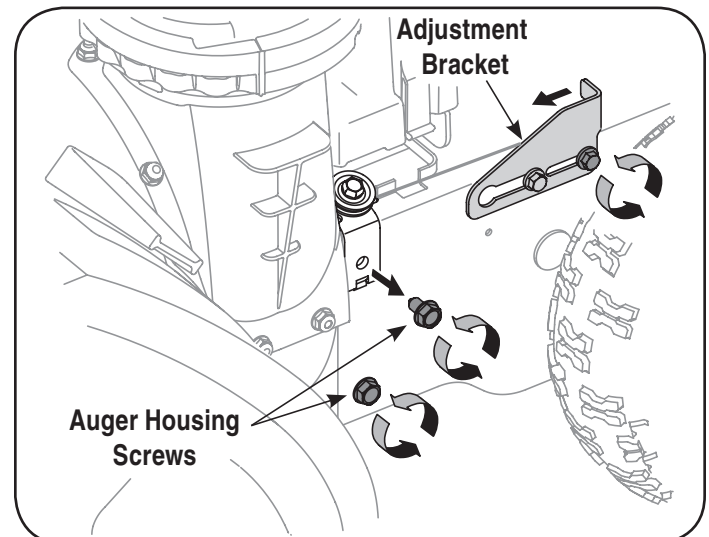

Figure 8
8. Loosen the rear hex bolt on the cable adjustment bracket. See Figure 8.